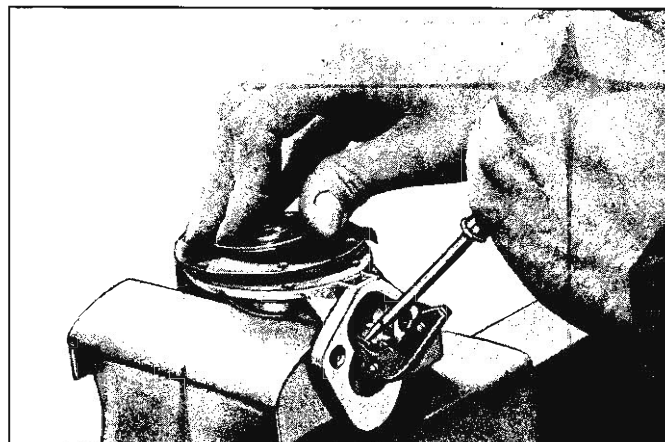

Fig. 24—Raising Fuel Link
4. Raise fuel pump link with a screw driver (fig. 24). Unhook diaphragm from the link by pressing down and away from the rocker arm side. Remove oil seal and retainer.
3. Raise the pump lever with a screw driver (fig. 24), install the diaphragm push rod and hook over the end of the lever.